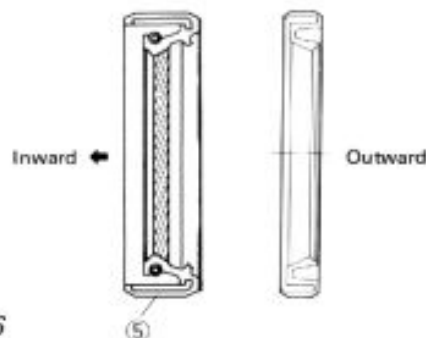

Fig. 13-36
The oil seal ⑤ used in this case is of helix type as shown in Fig. 13-36. When installing this seal, be sure to position it so that its helical part comes on the inner side.